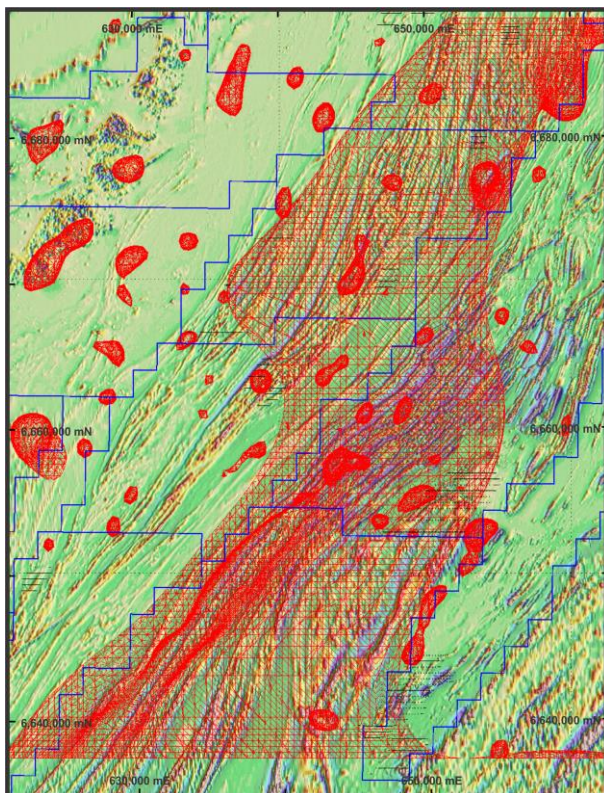

Figure 4a – 3D Gravity Inversion Model over magnetics (RTP 1VD NE Share)
- A major zone of complexity has been identified which is interpreted as a “Transfer Graben Zone” (**TGZ**). This zone is reflected in the near surface magnetic data that clearly shows a major north-west trending corridor containing numerous sub-linear faults (**Figure 4a & 4b**).